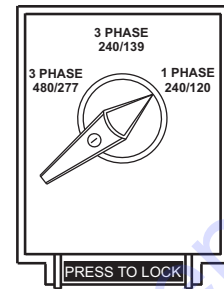

Figure 41. Voltage Selector Switch
1. Place the **voltage selector switch** in the desired voltage position (Figure 41).